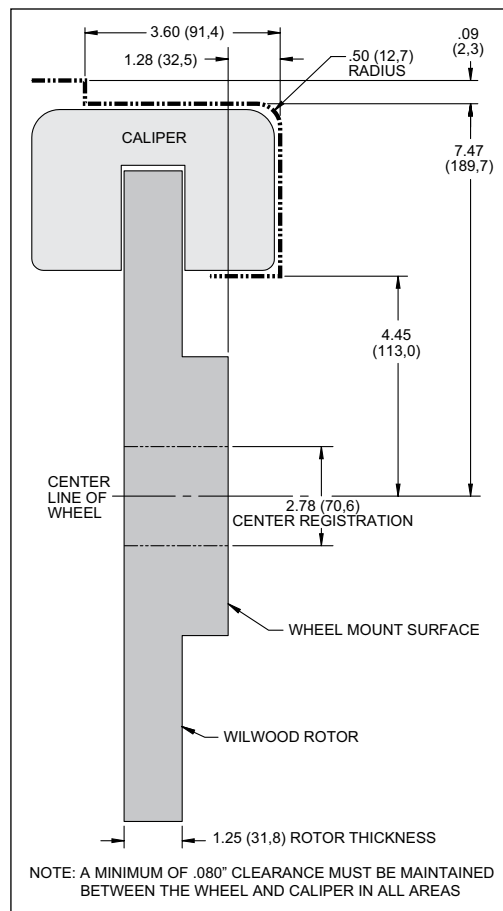

Figure 2. Wheel Clearance Diagram
- Review the wheel clearance diagram (Figure 2, page 3) to verify that there is adequate clearance with the wheels you will be using with the installation.
- Make sure this is the correct kit to fit the exact make and model year of your axle. This kit is designed for direct bolt-on installation to 1997 through 2013 model year Chevrolet C5 and C6 Corvette hubs. Speciality aftermarket wheels or spacer may be required. Check wheel clearance diagram, Figure 2.
- Verify your wheel clearance using Figure 2.